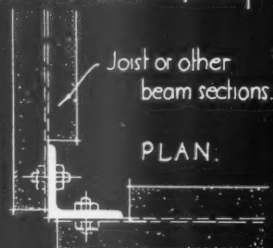
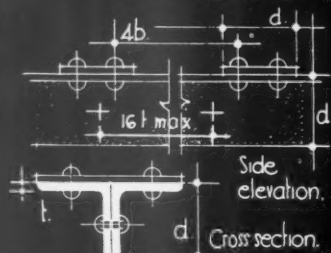
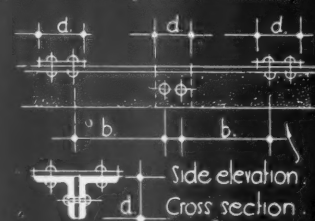
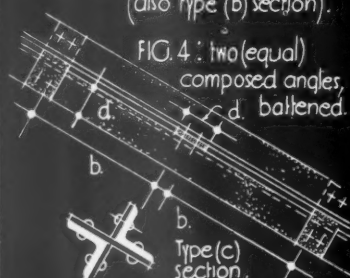

FIG. 1: Single angle (type (a) section).
FIG. 2: Two composed angles battened back to back (type (b) section).
FIG. 3: Two composed angles battened back to back, with space left, (also type (b) section).
FIG. 4: Two (equal) composed angles, battened.
* In the table the efficiency coefficients are given for single & double angles (a) referring to single angles, fig. 1; (b) to double angles in accordance with figs. 2 & 3; (c) to double angles in accordance with fig. 4.
Sections formed of one angle (Fig. 1) have radii of gyration, and therefore efficiency coefficients, which are superior to those of joists of similar weight. For instance :—
They may, however, be suitably used for corner columns (Fig. 1), particularly as joists might be connected to them without cleats. In fact, they merit a greater use than is accorded them at present.
Two equal angles may be composed : in Fig. 2 they are shown back to back, and in Fig. 3 a distance is left.
Two equal angles, as shown in Fig. 4, have the greatest efficiency and are, in some cases, superior to two channels of the same weight (see Sheet 11). Angles in this combination are used as diagonals for trusses and sometimes as columns, though the connections to joists are not always easy to arrange.
For the arrangement shown in Fig. 3, the batten plates should have a width d equal to the flange width of the angles. The distance b between the outer rivets of batten plates should not be less than $40 r$ where r = smallest radius of gyration of single angle.
For the arrangement shown in Fig. 2, where batten plates occur only on the flange, their distance apart may be four times as great as in Fig. 3.
For both types (b) and (c) the two different types of batten plates, shown in Figs. 2 and 3, should alternate.